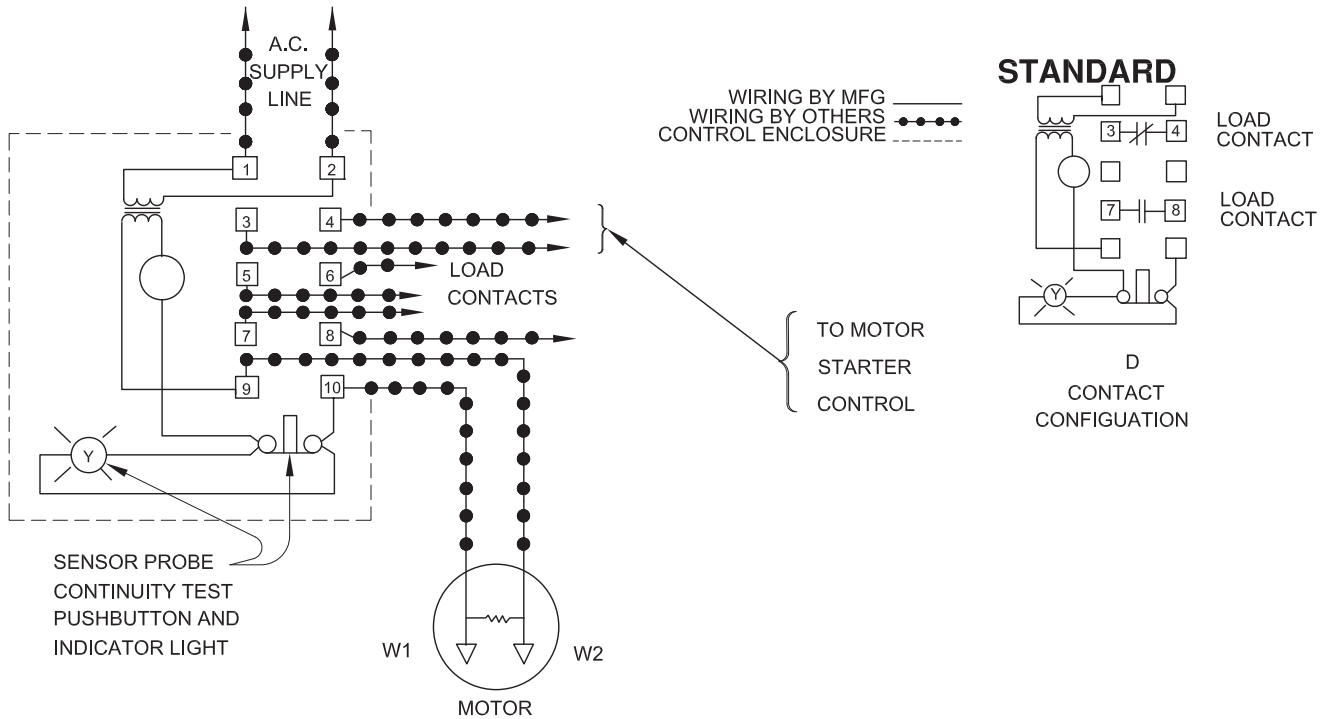

FIGURE 5
- A moisture detection circuit with continuity test circuit (See Fig. 5)
To expose outer shaft seal (4) for examination, remove Impeller and Volute per Section E-2.1. Set motor assembly (1) in the inverted position to prevent loss of oil. Remove snap ring from motor shaft, then retaining ring (5), spring (4C) and rotating member (4B) from shaft, See Figure 5. Examine all seal parts and especially contact faces. Inspect seal for signs of wear such as uneven wear pattern on stationary members, chips and scratches on either seal face. **DO NOT** interchange seal components, replace the entire shaft seal (4). If replacing seal, remove stationary (4A) from mounting plate by prying out with flat screw driver.